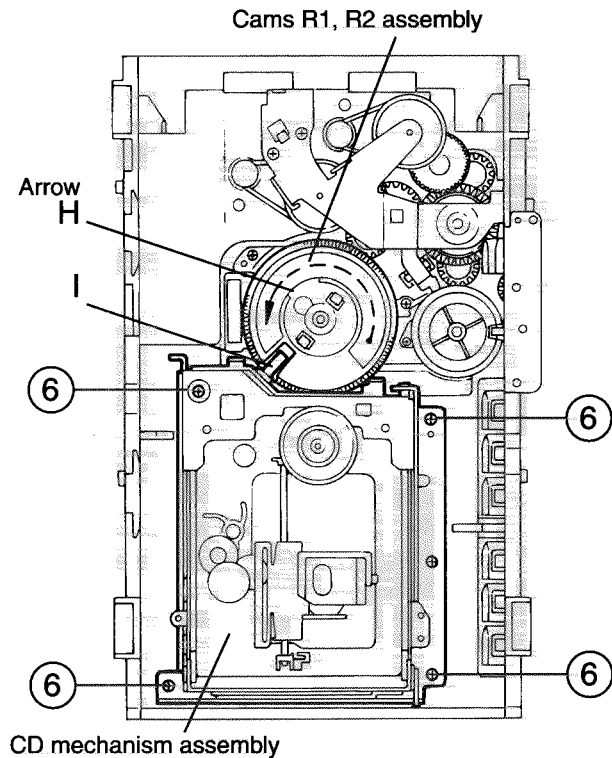

Fig.10
Removing the CD mechanism assembly(See Fig.10)
1. While turning the cams R1 and R2 assembly in the arrow direction "H" , align the shaft "I" of the CD mechanism assembly to the position shown in Fig.10.